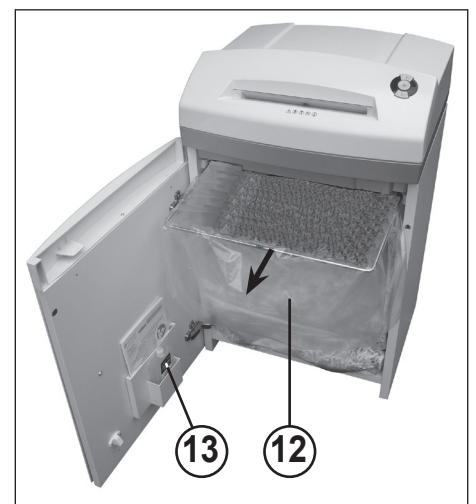

fig. 4
12 = Paper collection bag (Fig. 4)
13 = Oil reservoir (Fig. 4)
PAPER COLLECTION BAG (Fig. 4):
Cross cut cutters must be oiled after a specific operating time. If the control display (7) comes on proceed as follows: Open the door. The control display (8) comes on and the reverse button (4) LED display as well as the control display (7) **flashes**. Remove the oil reservoir (13) (Fig. 4) from the holder in the door and close the door again.